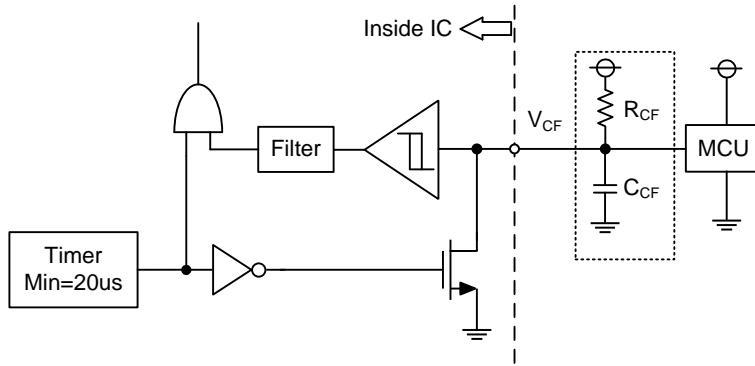

Figure 5. V_{CF} Output Circuit
- (1) If the control GND is connected with the power GND by common broad pattern, it may cause malfunction by power GND fluctuation. It is recommended to connect the control GND and power GND at a single point (N1), near the terminal of the shunt resistor.
- (2) There are two COM pins in the IPM but it is recommended to only use the (15) COM pin to minimize SC detection noise.
- (3) A zener diode D1 (24V/1W) is recommended between each pair of control supply pins to prevent surge destruction.
- (4) Prevention of surge destruction can further be improved by placing the bus capacitor as close to pin P and N1 as possible. Generally a 0.1-0.22μF snubber capacitor C3 between the P-N1 terminals is recommended.
- (5) Selection of the R1*C4 filter components for short-circuit protection is recommended to have tight tolerance, and is temperature-compensated type. The R1*C4 time constant should be set such that SC current is shut down within 2μs; (typically 1.5-2μs). R1 and C4 should be placed as close as possible to the C_{SC} pin. SC interrupting time may vary with layout patterns and components selection, therefore thorough evaluation in the system is necessary.
- (6) Tight tolerance and temperature-compensated components are also recommended when selecting the R2*C5 filter for V_{OT}. The R2*C5 time constant should be set such that V_{OT} is immune to noise. Recommended values of R2 and C5 are 2kΩ and 10nF.
- (7) To prevent malfunction, traces A, B, and C should be as short as possible.
- (8) It is recommended that all capacitors are mounted as close to the IPM as possible. (C1: electrolytic type with good temperature and frequency characteristics. C2: ceramic type with 0.1-2μF, good temperature, frequency and DC bias characteristics.)
- (9) Input drives are active-high. There is a minimum 3.5kΩ pull-down resistor in the input circuit of IC. To prevent malfunction, the layout to each input should be as short as possible. When using RC coupling circuit, make sure the input signal levels meet the required turn-on and turn-off threshold voltages.
- (10) V_{CF} output is open drain type. It should be pulled up to MCU or control power supply ($\text{max}=5\pm0.5V$), limiting the current (I_{CF}) to no more than 1mA. I_{CF} is estimated roughly by the formula of control power supply voltage divided by the pull-up resistor R3. For example, if control supply is 5V, a 10kΩ (over 5kΩ) pull-up resistor R3 is recommended.
- (11) If only a pull-up resistor R3 of 10kΩ connected to V_{CF} pin, the fault output pulse width is fixed at minimum 20us. If a capacitor C6 is connected with a pull-up resistor R3, the fault output pulse width can be controlled according to the resistor value and capacitor value. For the design guide, please refer to the Figure 5.
- (12) Direct drive of the IPM from the MCU is possible without having to use opto-coupler or isolation transformer.
- (13) The IPM may malfunction and erroneous operations may occur if high frequency noise is superimposed to the supply line. To avoid such problems, line ripple voltage is recommended to have $dV/dt \leq \pm 1V/\mu s$, and $V_{\text{ripple}} \leq 2V_{\text{p-p}}$.
- (14) It is not recommended to use the IPM to drive the same load in parallel with another IPM or inverter types.